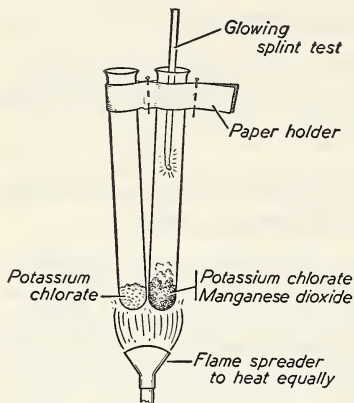

Fig. 23. The effect of heating manganese dioxide with potassium chlorate.
3. Mix together on a piece of paper approximately the same quantity of potassium chlorate as used in Procedure 1 and approximately one-third this quantity of manganese dioxide. Place this mixture in a Pyrex test-tube. In another Pyrex test-tube, place an equal quantity of potassium chlorate only. Hold both test-tubes in a common holder and, using a flame spreader, heat the two uniformly (Fig. 23). Test each tube at frequent intervals with a glowing splint.